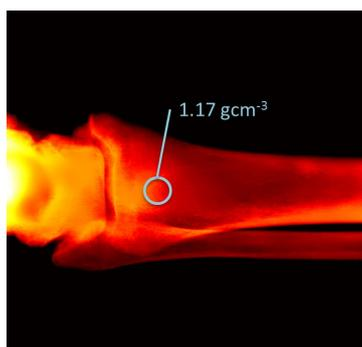

Figure 6: A colour map representing the Bone Mineral Density of this ankle joint, with a specific value of BMD highlighted.
- In addition, quantitative measures of bone mineral density can be obtained from an IBEX-equipped radiograph (Figure 6) rather than requiring a DEXA scan (Dual Energy X-ray Absorptiometry). This makes this important information, key for assessing osteoporosity and fracture risk, available more quickly and more widely, and saves the patient a second visit to the clinic.